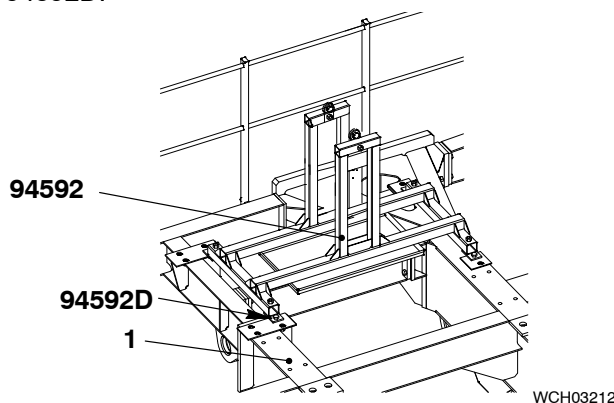

Fig. 1
- 14) Attach the pump rack 94592 (Fig. 1) to the top primary platform (1) with the screws 94592D.